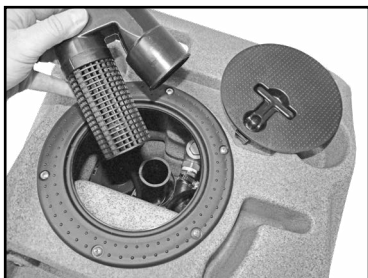

Figure 2
- Remove the float assembly from the recovery tank and clean filter as needed. Replace float assembly and tank lid (Figure 2).